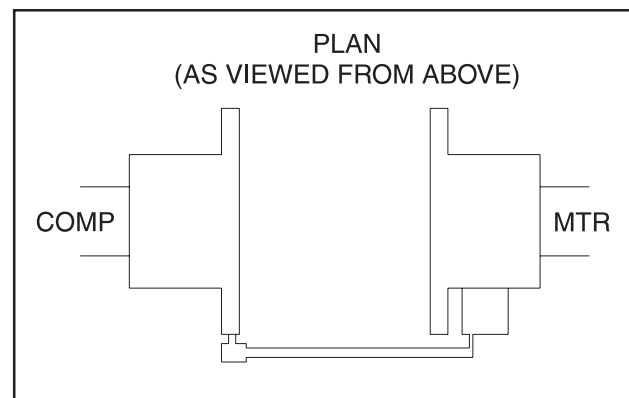

FIG. 6 - DIAL INDICATOR AT 3 O'CLOCK
10. Check parallel lateral misalignment by positioning dial indicator so the stem is in contact with the rim of the compressor hub at 3 o'clock, as shown in Fig. 6.